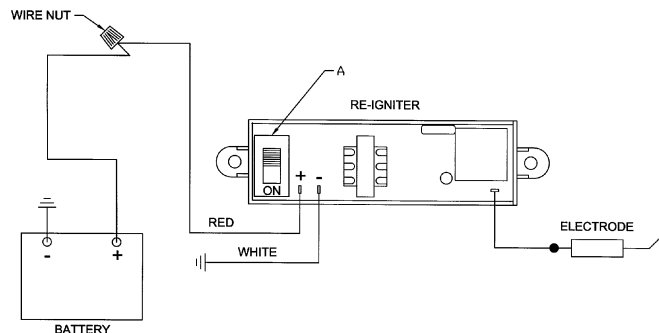

Figure 7
B. Make 12 volt D.C. connections to re-ignitor as illustrated in Figure 7.